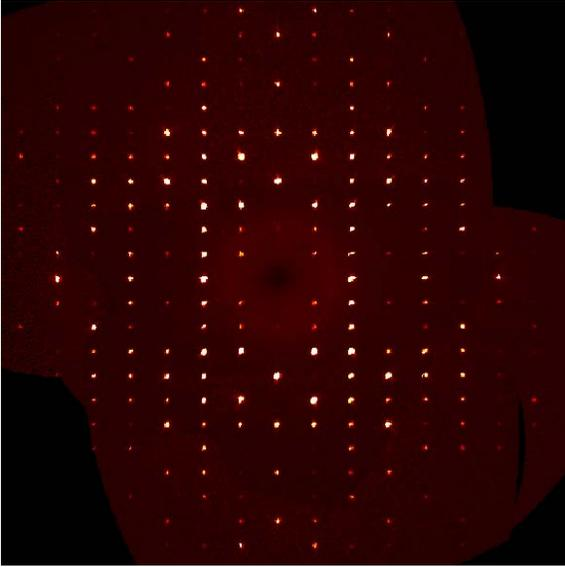
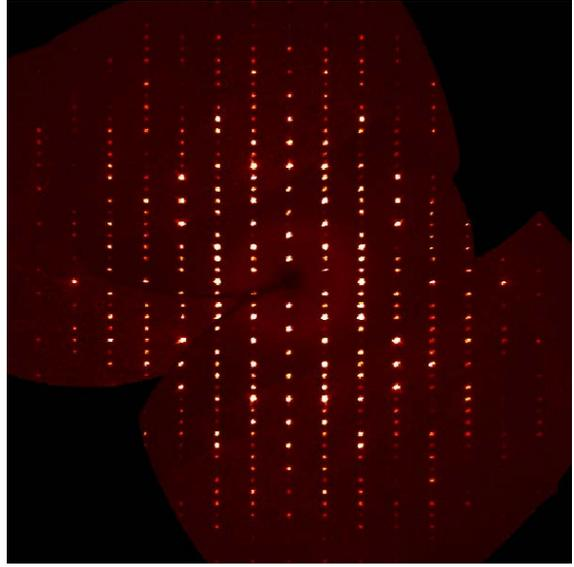
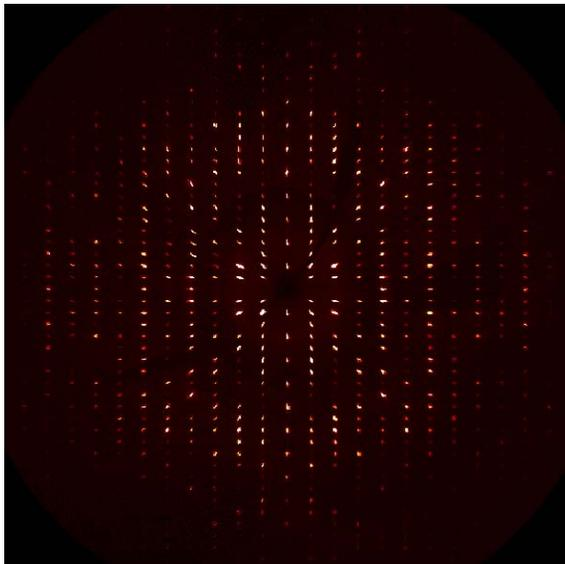
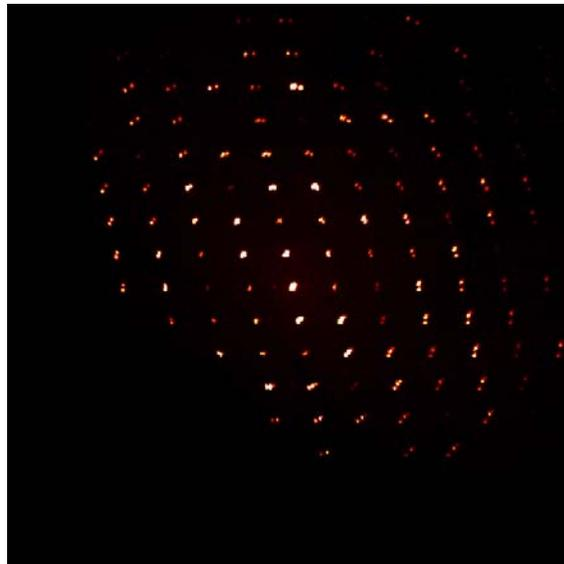

Figure 8.21 – The 0kl plane for the test YLID
Figure 8.22 – The h0l plane for the test YLID
Figure 8.23 – The  $hk0$  plane for the test YLID
Figure 8.24 – A plane from a rotationally twinned crystal showing the two lattices
5. Use the simulated patterns to check space group symmetry (see Figure 8.21, Figure 8.22, and Figure 8.23) and to find signs of twinning (Figure 8.24).